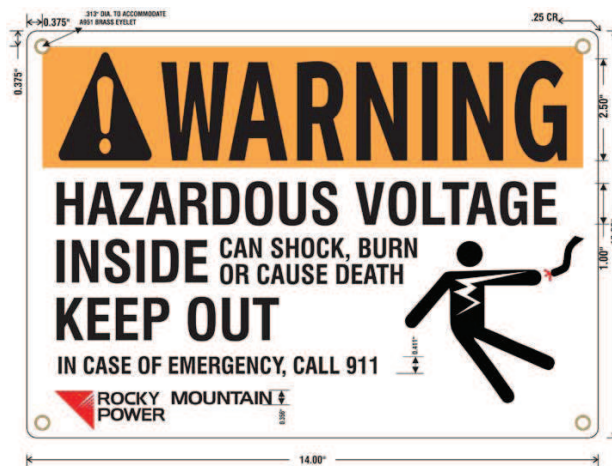

Figure 2—High-Voltage Warning Sign for Rocky Mountain Power (SI# 7999852)
6. On the sign, the signal word reads, "WARNING." The warning message reads, "HAZARDOUS VOLTAGE INSIDE KEEP OUT." Additional wording includes, "CAN SHOCK, BURN OR CAUSE DEATH" and "IN CASE OF EMERGENCY, CALL 911." The Pacific Power or Rocky Mountain Power logo follows as shown in Figure 1 and Figure 2.